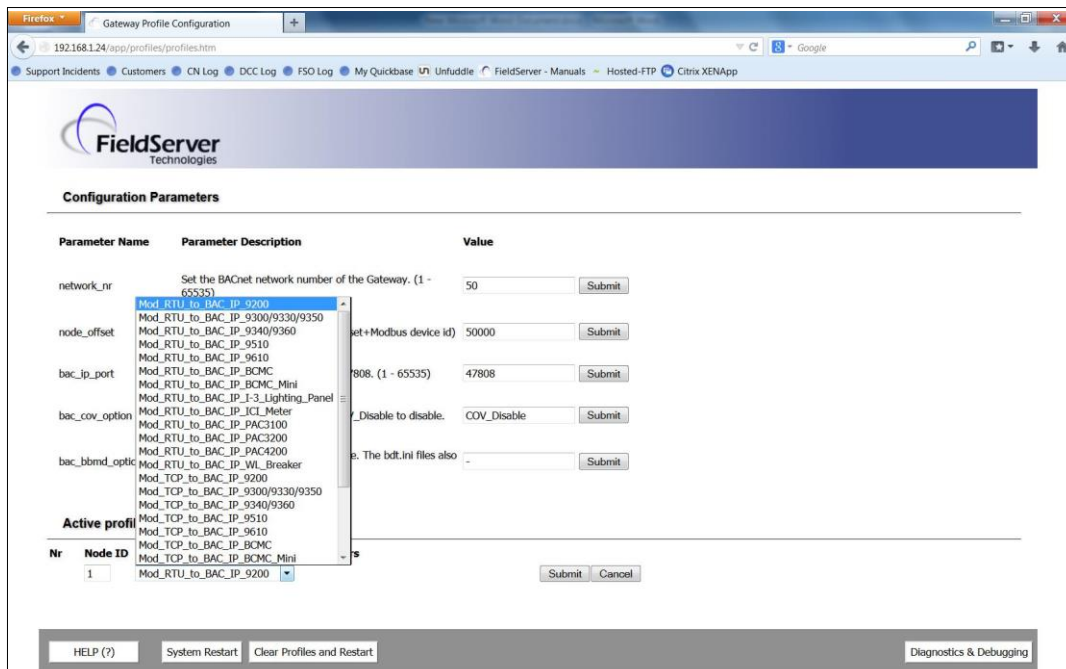

Figure 19: Web Configurator Showing Available Profiles for Selection
- To add an active profile to support a device, click the ADD button under Active Profiles. This will present a drop-down box underneath the Current Profile column that lists all the available profiles. See Figure 19.